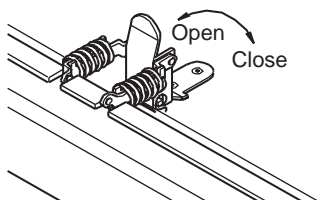

Figure 46 - Opening Door Latches
3. To open glass door, undo latches located on top and bottom of firebox (see Figure 46, page 25). *Note: Use caution when opening these latches. Carefully open door by swinging it to the left. Glass door is mounted to firebox with 5 screws.*